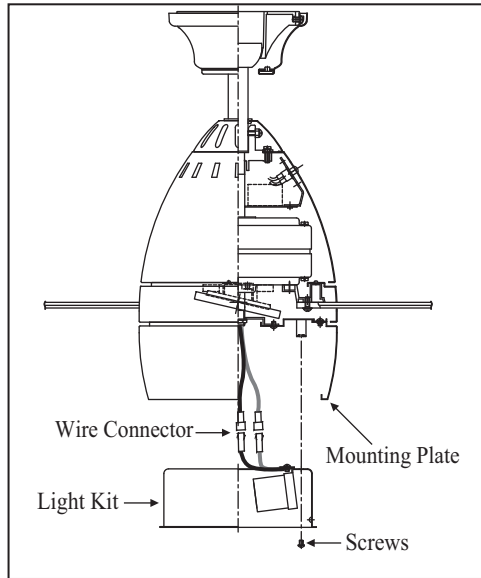

Figure 22
1. Remove 1 of the 3 screws from the mounting plate and keep it for future use. Loosen the other 2 screws. (Do not remove) (Fig. 22)
3. Place the key holes on the light kit over the 2 screws previously loosened from the mounting plate, turn light kit until it locks in place at the narrow section of the key holes. Secure by tightening the 2 screws previously loosened and the one previously removed. (Fig. 22)